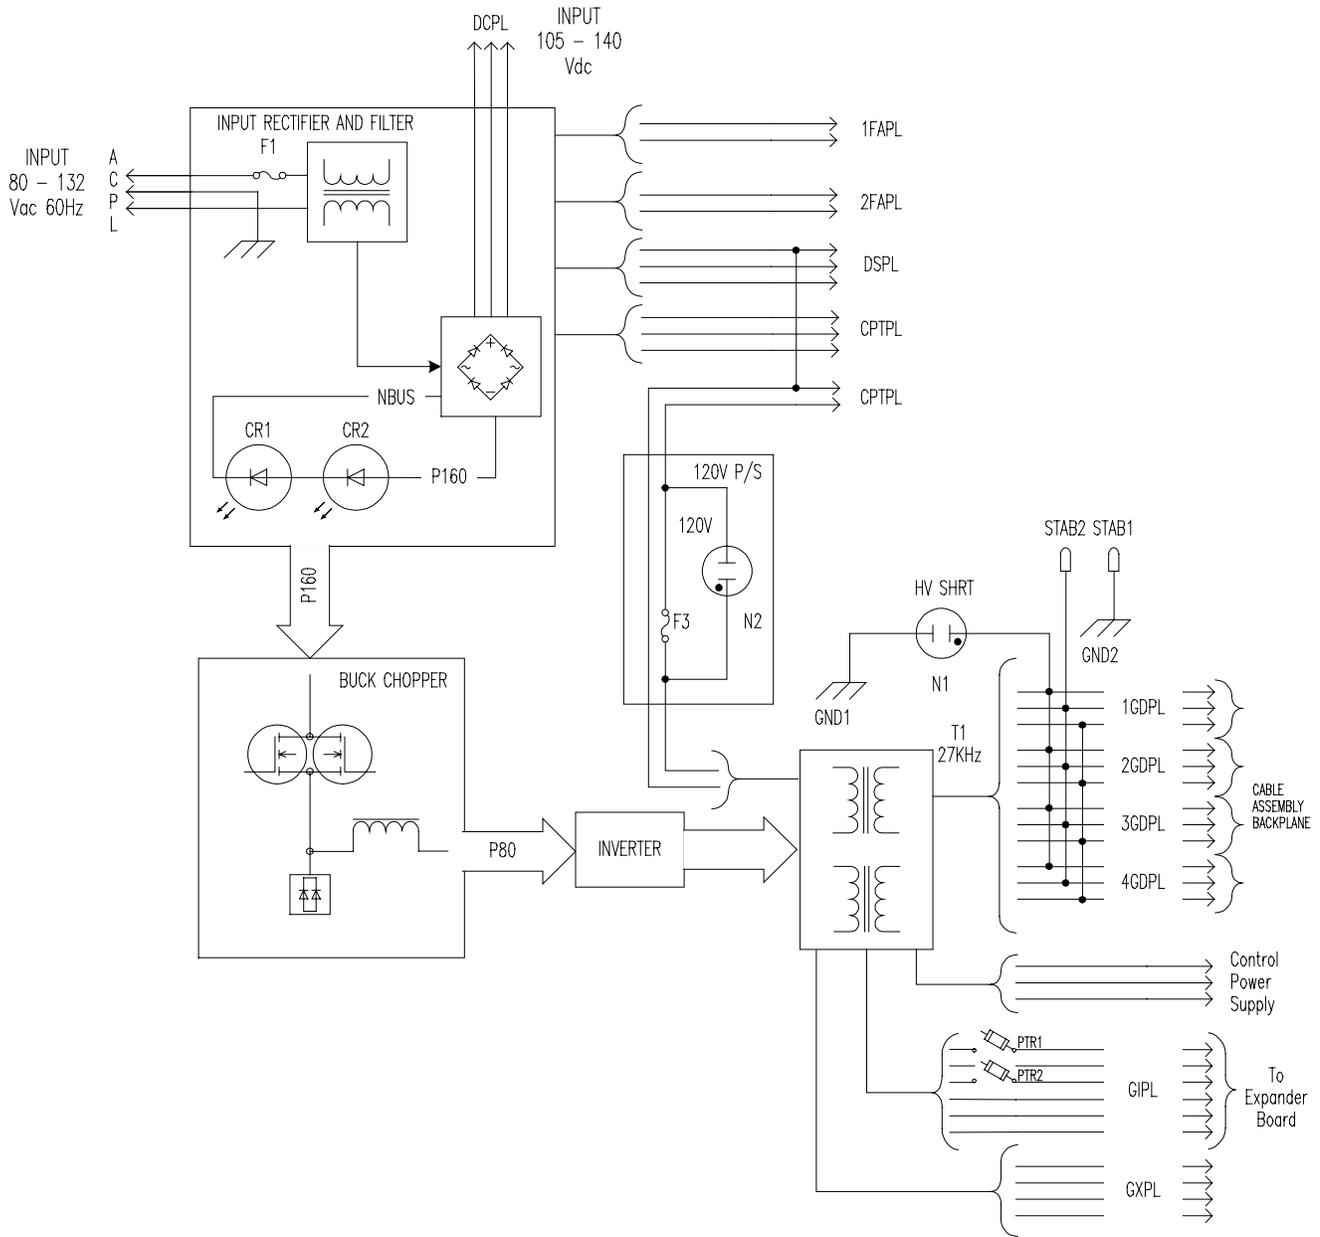

Figure 1. GDPA Board Block Diagram
The DS200GDPA High Frequency Power Supply Board (GDPA) is a 600 or 700 watt (W) high frequency power supply board with the ability to draw input power from both AC and DC sources. See Figure 1, GDPA Board Block Diagram.